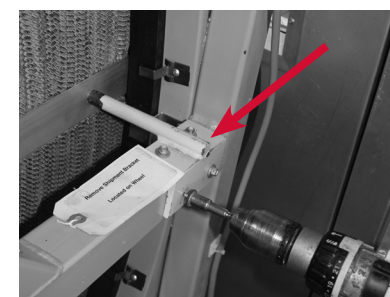

FIGURE 10. Shipping restraint for flat rim wheel.
- 2) Remove shipping restraint located in the supply air side of the wheel near the drive motor. Remove all bolts and discard. The shipping restraint prevents the rotor from turning during shipment (See **FIGURES 10 and 11**).